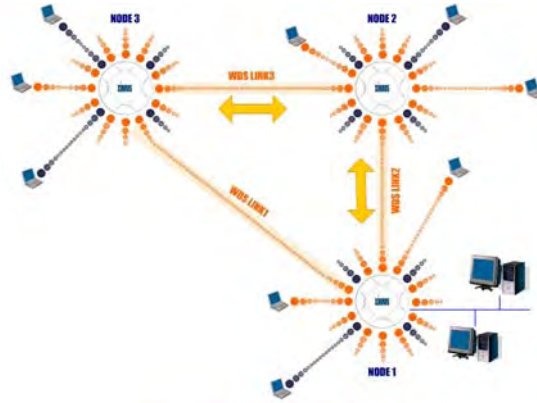

Figure 24. WDS Failover Protection
- Multiple WDS links can provide link redundancy (failover capability - see Figure 24). A network protocol (Spanning Tree Protocol—STP) prevents Arrays from forming network loops.